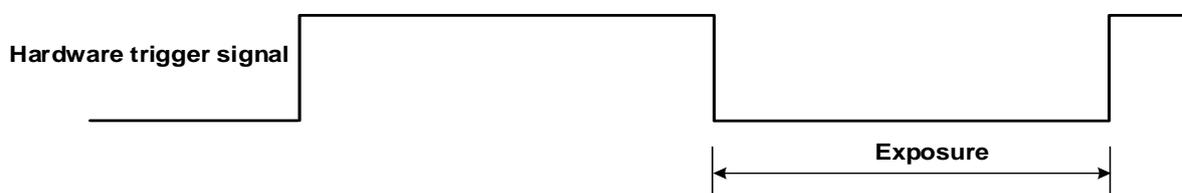

Figure 8-31 The sequence diagram in falling edge trigger of TriggerWidth exposure mode
- If falling edge triggering is enabled, exposure starts when the trigger signal falls and continue until the trigger signal rises, as shown in Figure 8-31